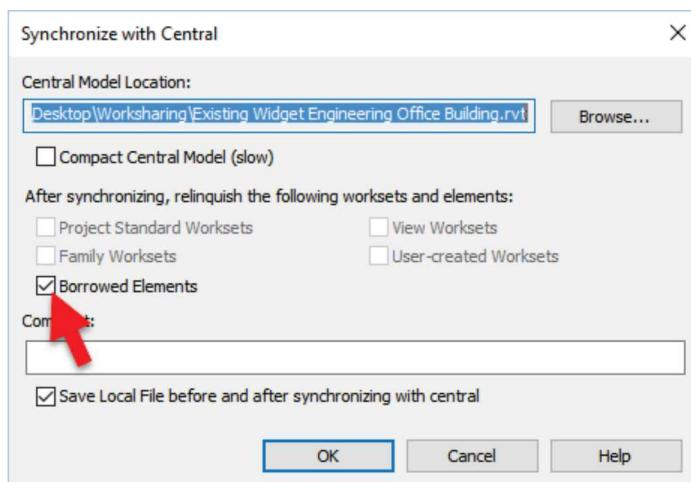

FIGURE 16-4.12 Synchronize with Central dialog
22. **USER B:** Make sure all checkable boxes **are checked** except 'Compact Central Model' (Figure 16-4.12).